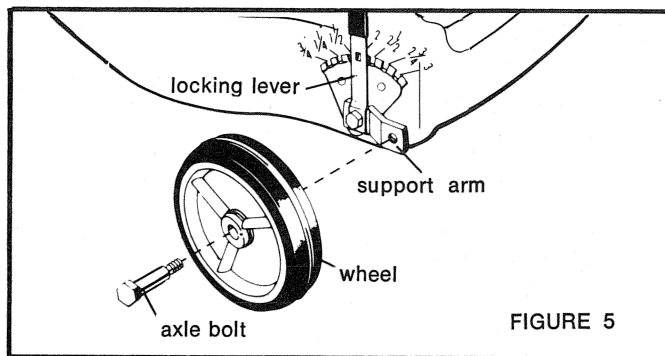

FIGURE 5
- A. Insert axle bolt through hole in wheel (Figure 5).